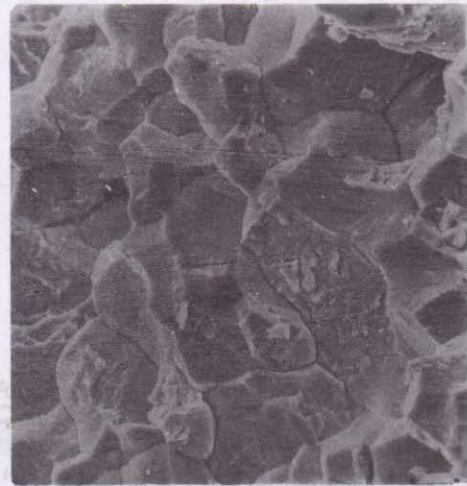

Figure 6.13 Intergranular fracture in stress corrosion cracking.
- The crack path is often *intergranular* in SCC, Fig. 6.13. Transgranular crack propagation, i.e. propagation across the grains, has also been found in some cases.